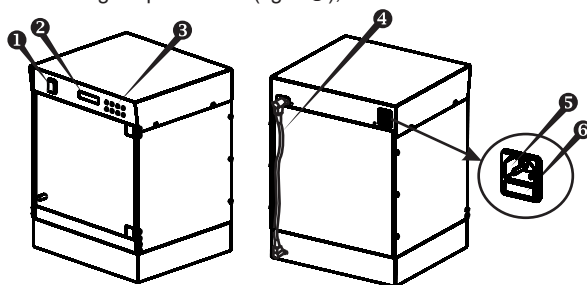

Fig.1 Unit construction
- power switch (fig. 1/①);
- display (fig. 1/②);
- control buttons (fig. 1/③).
- shaking block control cable (fig. 1/④);
- socket for connecting the power cord (fig. 1/⑤);
- fuse holder (fig.1/ ⑥).
- Connect the shaker control cable (fig.1/④) into the corresponding sockets on the rear of the thermostatic and shaking blocks;
- Plug the mains cable into the socket on the rear (fig.1/⑤) and position the unit so that there is easy access to the power switch and connector.